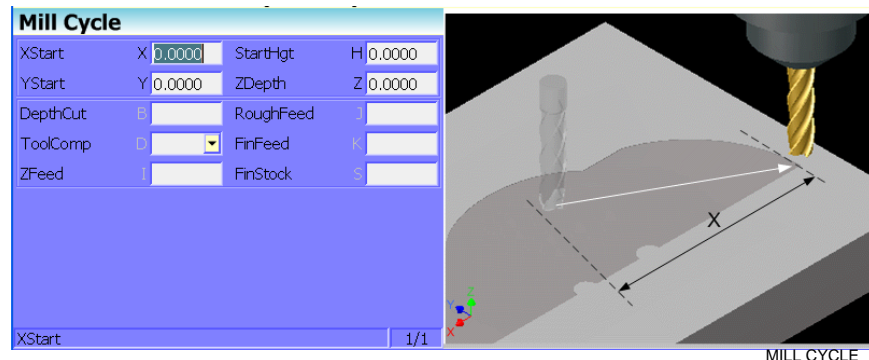

Figure 4-29, Mill Cycle Graphic Menu
1. In Edit mode, press **Milling (F5)** and **Mill Cycle (F1)** to display the Mill Cycle screen, **Figure 4-29**.